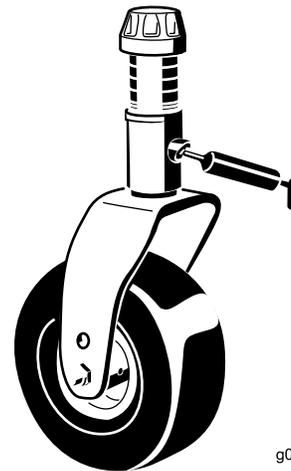

Figure 79
- 2 caster-fork-shaft bushings (Figure 79)